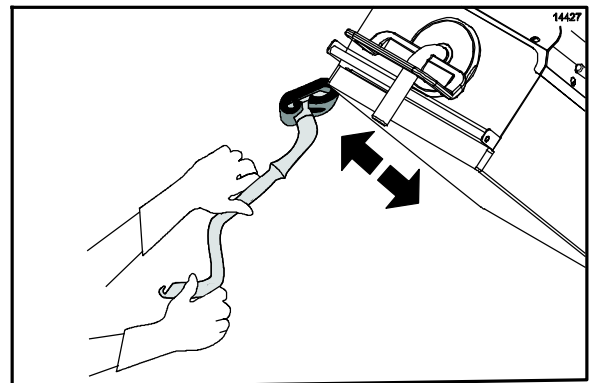

Figure 59
27. Scrub the outer edges of the right and left platens. (See Figure 59.)